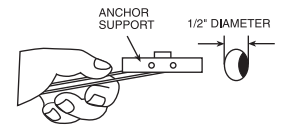

Figure 3
- Drill 1/2-inch hole into wallboard on **non-stud side only** (see Figure 2A). Hold metal channel flat along plastic straps and slide channel through hole (see Figure 3).